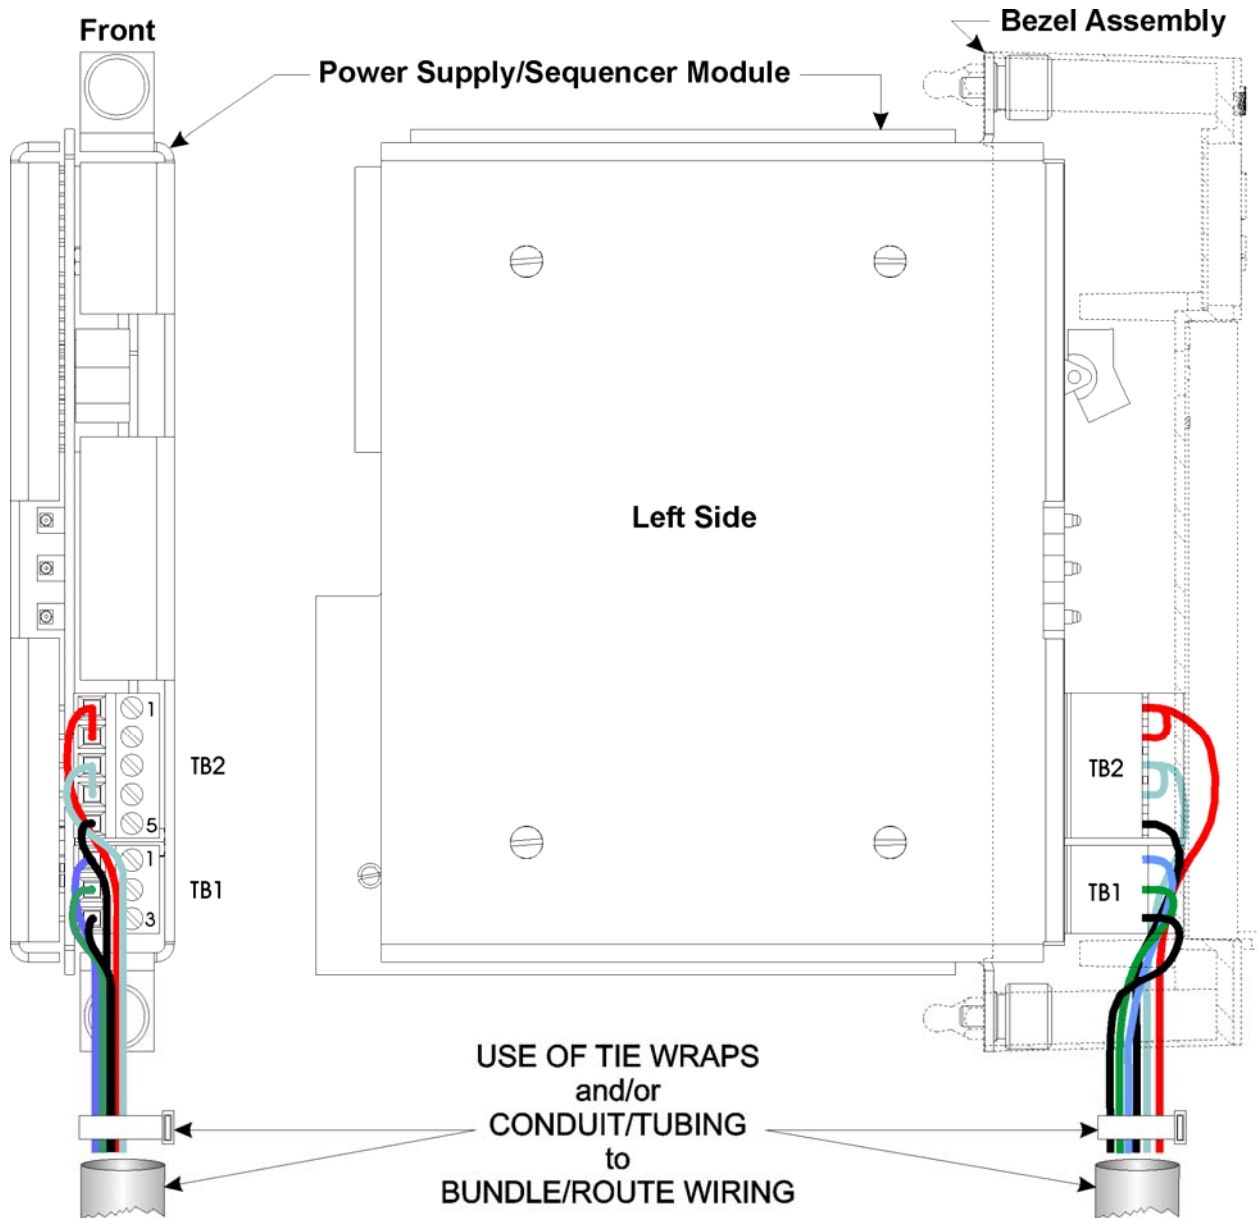

Figure 2-15 - PSSM Wire Routing Diagram
2.3.4.1.3 Watchdog MOSFET Switch Wiring (see Figures 2-15, 2-16 & 2-17)
MOSFET Connections: (see Figures 2-15 & 2-17)